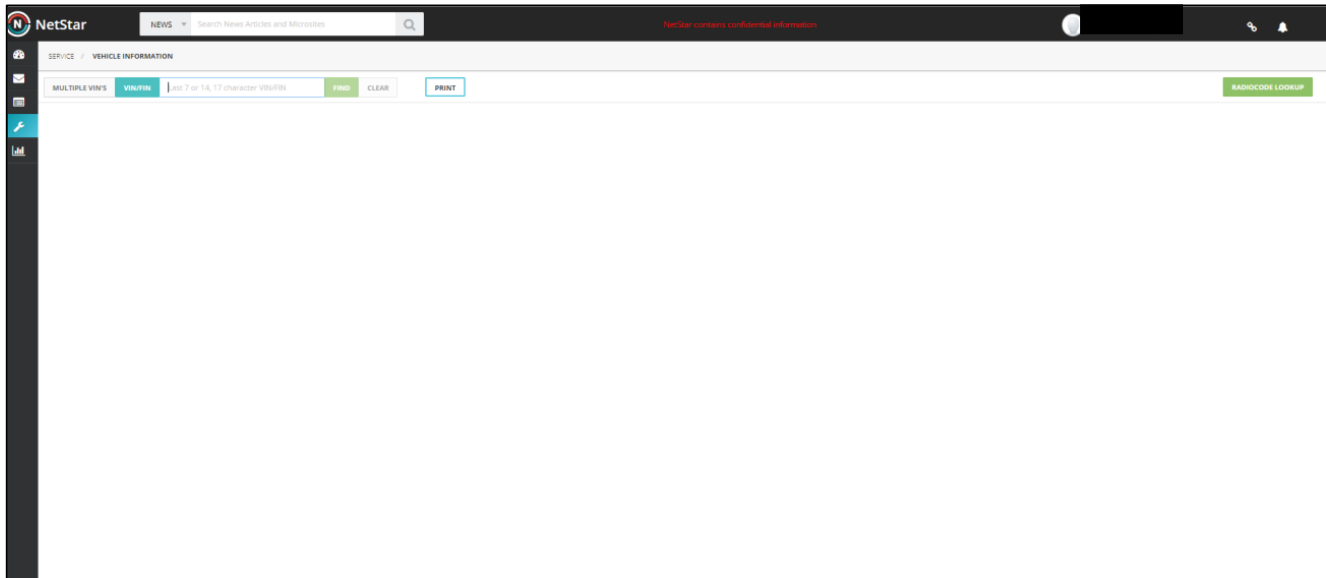

Figure 4
1. Log in to "NetStar" and call up the Vehicle Master Inquiry (VMI) screen (**Figure 4**).
3. Click on the "OTA update" link (Figure 4).